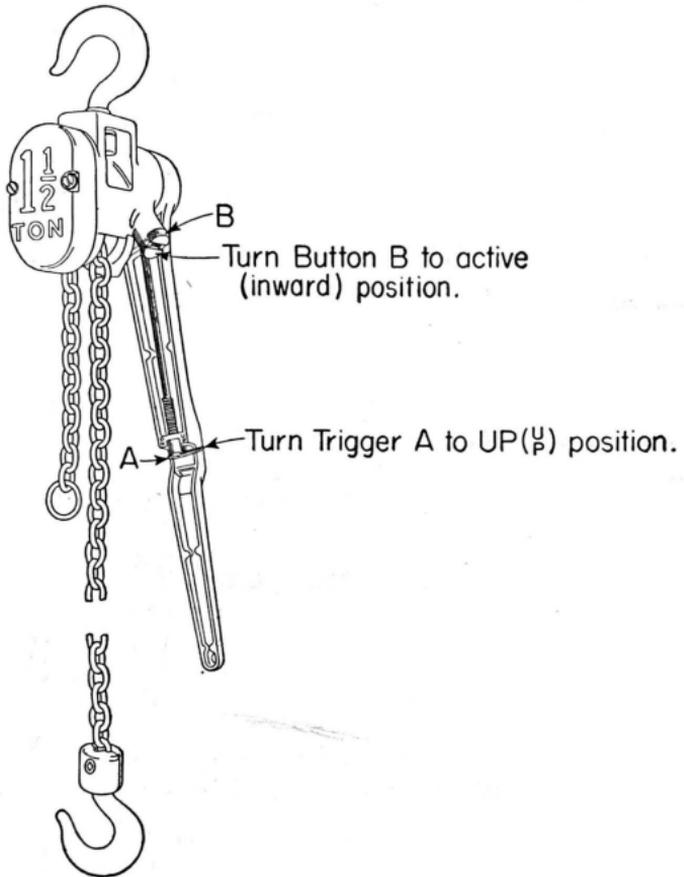

Fig. 2
3.05 In order to use the hoists for lifting or pulling a load, set the button and trigger controls as shown in Fig. 2.